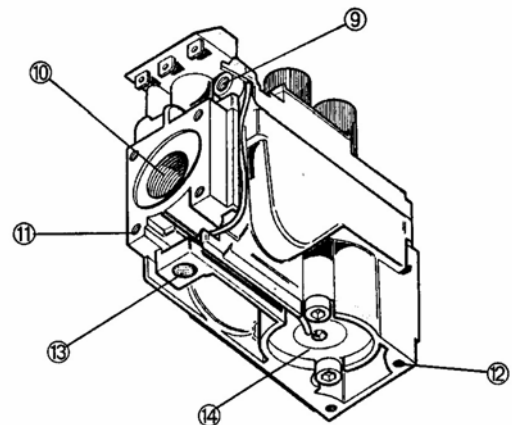

Figure 15: Gas Control Valve Detail
Pressure Measurements: To measure the gas pressures, connect a manometer to the gas inlet tap (6) and manifold pressure tap (7) in Figure 15.
The pilot light is preset by Hearthstone and should not need adjustment. The pilot light flame must be large enough to engulf the thermopile and thermocouple located next to the pilot, but not so large as to create excessive noise or consume excessive gas (*refer to figure 17*). However, it can be adjusted by means of the pilot light adjustment screw located on the gas control valve (*see Figure 15*). Open the ash lip door to access the pilot adjustment screw. Note that the pilot flame must engulf the thermopile so that the thermopile can generate sufficient milli-voltage (325 to 500-mv) to power the millivolt gas control valve.